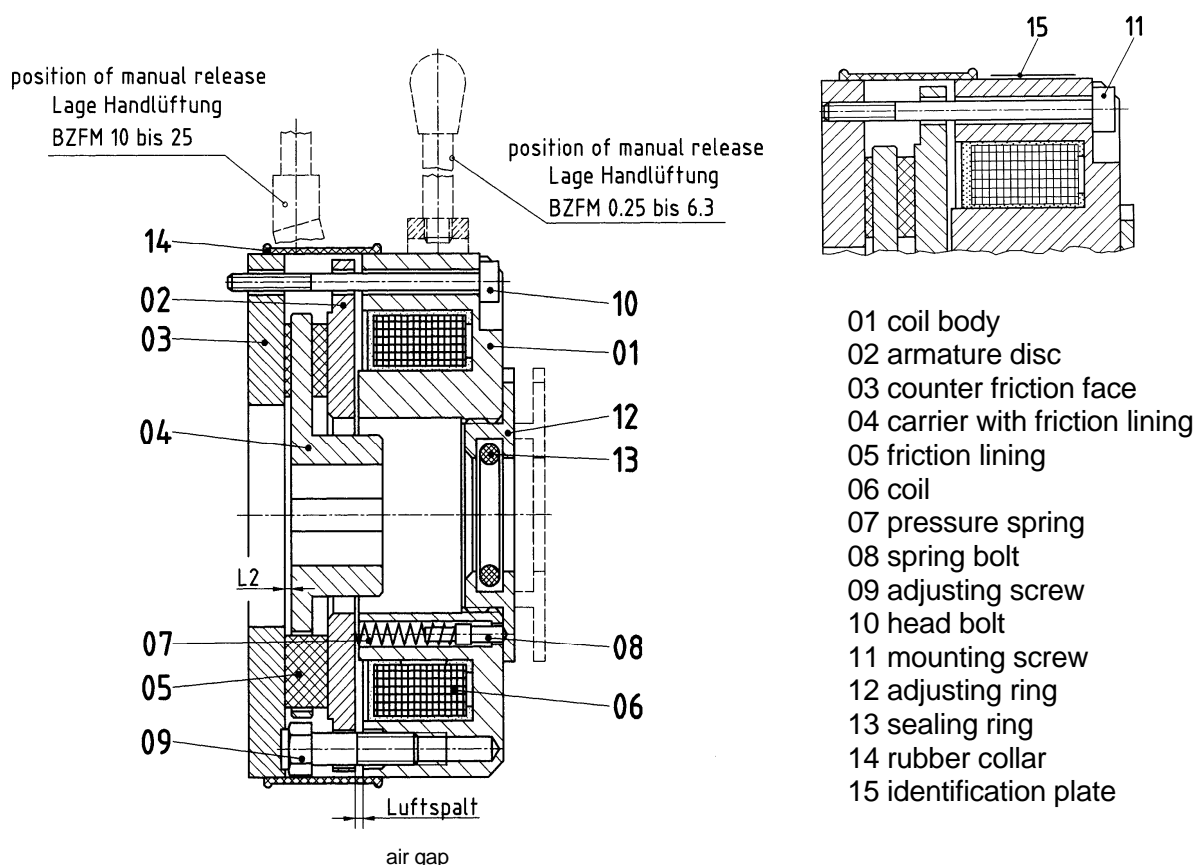

Figure 1
- Unscrew the adjusting ring (12), so that the friction lining carrier (04) becomes visible.
- Fit the brake with pre-centered friction lining carrier (04) onto the shaft up to limit stop adhering to the dimension "L2" as per table 3 and fig. 1.
- Protect the friction lining carrier (04) axially by safety ring, grooved nut, or similar.
- Fasten provisionally the brake to the motor - or to the geared flange - by the cyl. screws (10).